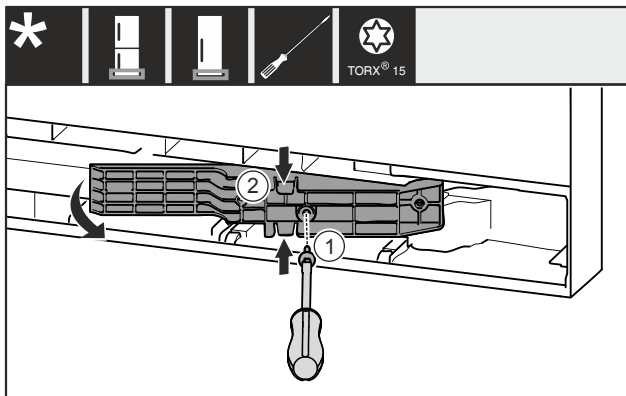

Fig. 19 *
- Remove the screw Fig. 19 (1)*.
- Gently press the adapter piece Fig. 19 (2) together at the top and bottom and pull it out.*